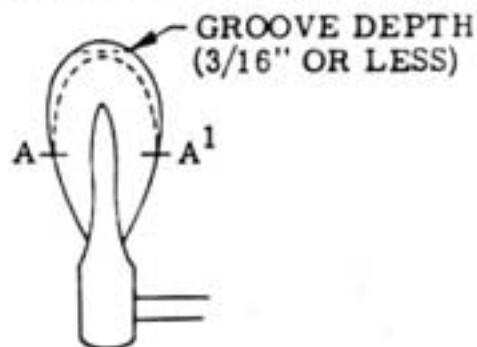

FIGURE 11
- a. Examine the condition of the Hammer Heads. If the grooves are not more than  $3/16$ " deep, they can be reshaped by sanding off the outer surface. To accomplish this, construct a shaping tool from a 6" length of yard stick to which has been cemented a piece of very rough sand paper. Beginning at Points A and A1 work upward toward the crown - taking off enough of the outer layer of felt to remove all trace of the groove (see Figure 11).